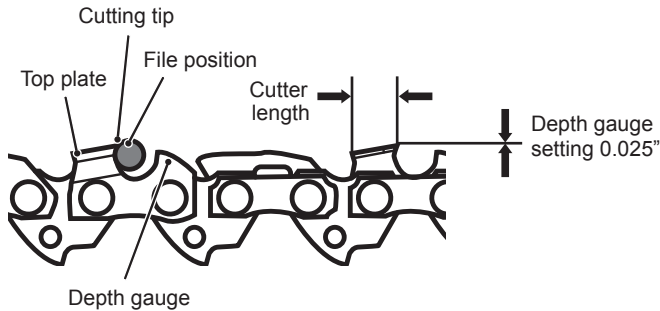

Fig. 19
9. Use a depth gauge measuring instrument to check the height of the depth gauge. Depth gauge measuring jigs are available from most reputable tool merchants (Fig. 19).